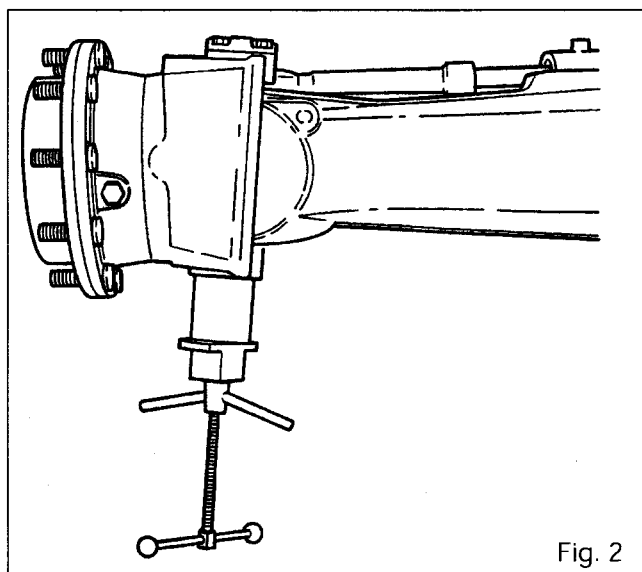

Fig. 2
5. Remove bolts (1), the cover (15) and cup (14). Extract the swivel pin (11) (Fig. 2) using extractor MF451B and end fitting MF451B3 (see Part M).
6. Remove bolts (1), the cover (2), shims (3) and cup (4). Extract swivel pin (7) as described above for the lower pin (Fig. 2).